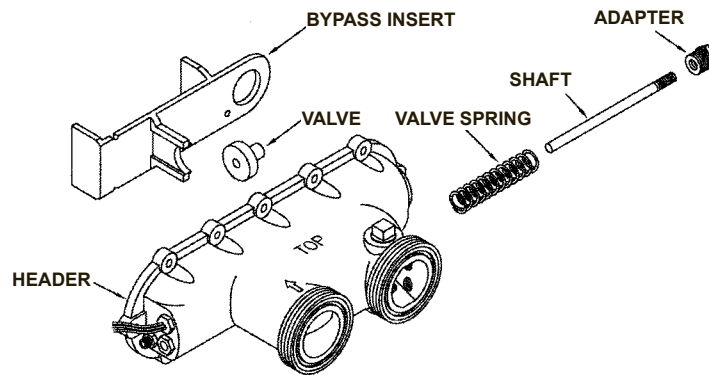

Figure 54: By-pass Valve
11. The adapter/shaft assembly and spring are removed by unscrewing the adapter as shown in Figure 54.
14. Inspect and ensure valve disk slides freely on the shaft. See Figure 54.